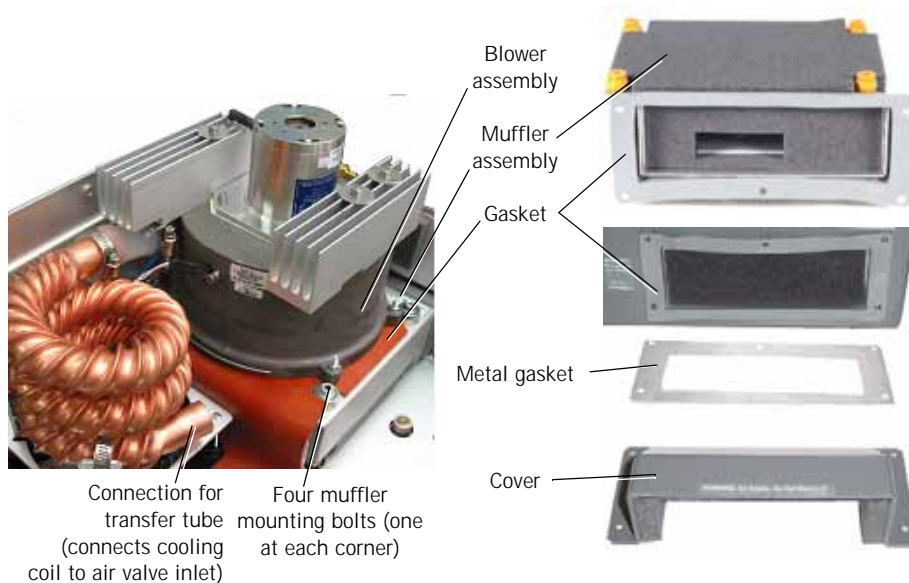

Figure 10-58: Blower Muffler Assembly
4. Disconnect the transfer tube from the bottom of the cooling coil (Figure 10-58).
Follow these steps to install the blower muffler assembly (Figure 10-58):